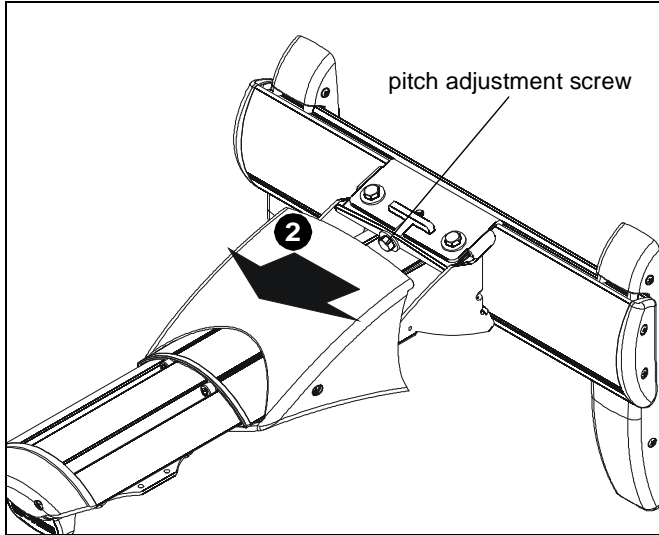

Figure 34
- Slide outer cover of mount (A) away from mounting bracket to expose pitch adjustment screw. (See Figure 34)